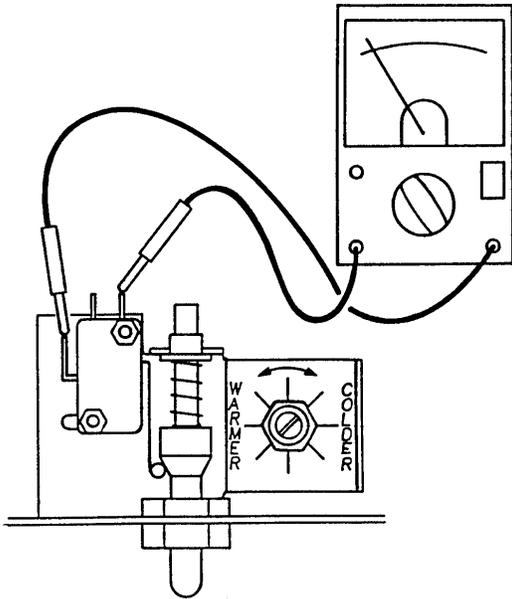

Figure 53. Spigot Switch Replacement
2. Position the switch so it activates as shown in Figure 53. Then fully tighten the retaining screws and nuts.